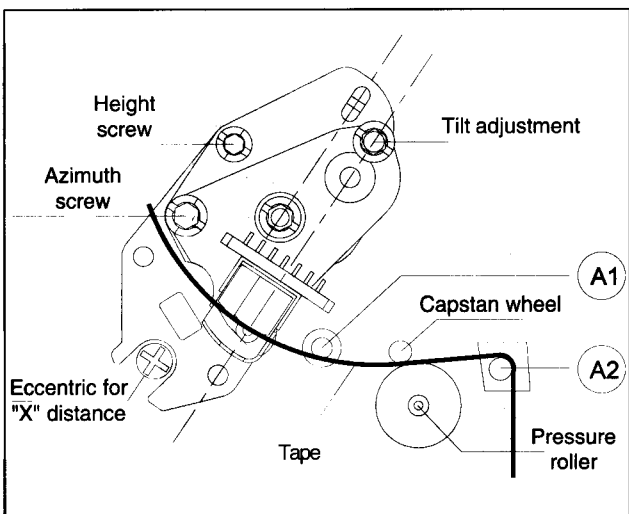

Fig. M13
- Display the TRIV signal on an oscilloscope (DC-coupled) and adjust for maximum voltage by means of the eccentric screw (fig M13).